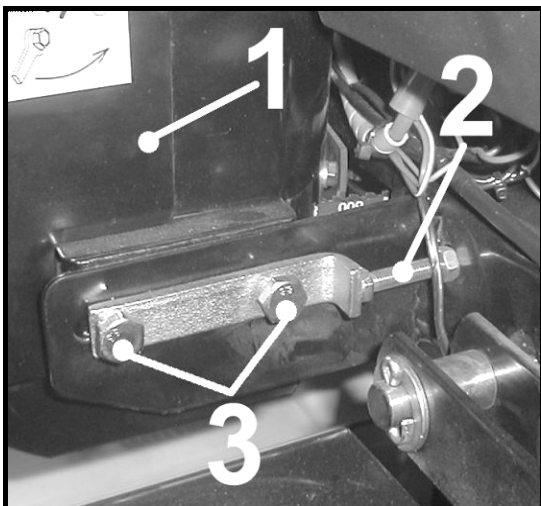

Fig.15a
**Adjustment of the belt for the pump drive- Fig.15a, 15b**